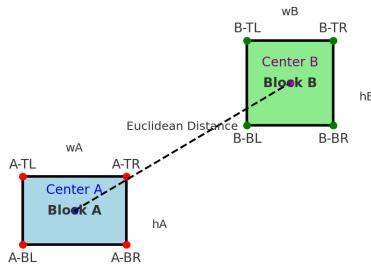

Figure 1
1. **Minimizing the total wiring distance:** Figure 1 above explains how the center-to-center wiring length can be calculated when both the blocks' height, width (w_A, h_A, w_B, h_B), and any single pair of corner points are given [suppose, bottom left of A (A-BL) and bottom left of B (B-BL) are given]. This is essentially the Euclidean Distance between